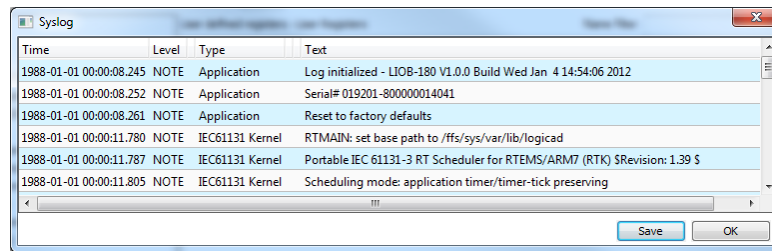

Figure 113: System log window
- When the upload is finished, click on **Show System Log**. The system log window appears as shown in Figure 113. Observe that the LIOB-18x/48x/58x will not show correct time stamps unless time synchronization is setup.